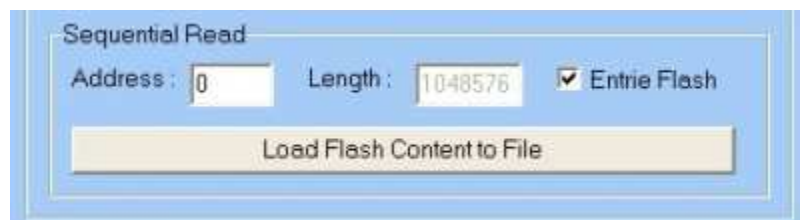

Figure 11.7. Load the content of the Flash Memory to a file
8. Sequential Read function allows you to read the content in Flash and save into a file. Figure 11.7 shows the screen capture of the Sequential Read. You can also specify the starting address and the length (in bytes) to read from the Flash. By clicking on the “Entire Flash” checkbox, you are indicating that you would like to load entire flash content (1Mbyte) into a file specified by you.